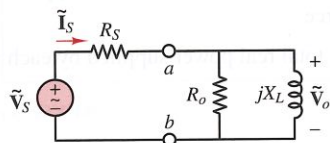

Figure P7.30
- 7.30** Calculate the real and reactive power of the load between terminals a and b in Figure P7.30. Assume $f = 60\text{ Hz}$, $\tilde{V}_s = 70\angle 0\text{ V rms}$, $R_s = 2\text{ }\Omega$, $R_o = 18\text{ }\Omega$, and $X_L = 5\text{ }\Omega$.